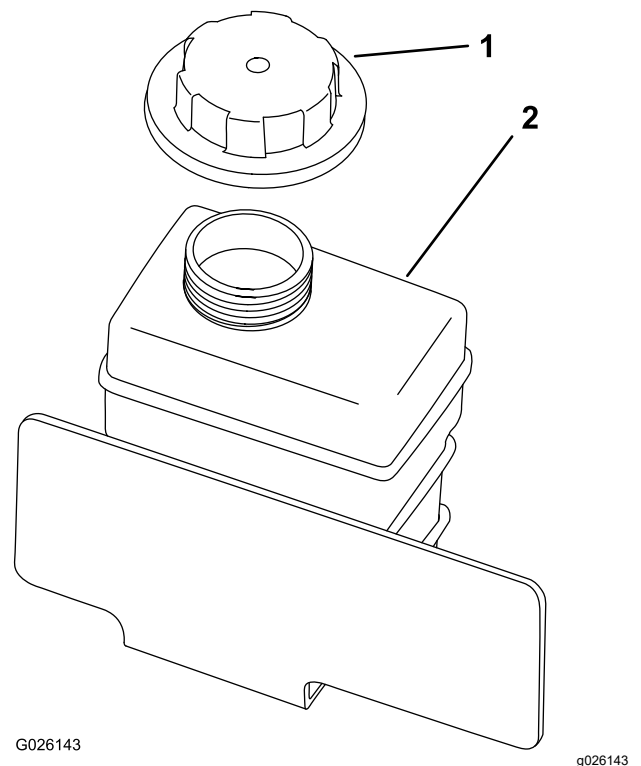

Figure 19
2. Check the coolant level inside the reserve tank (Figure 19).